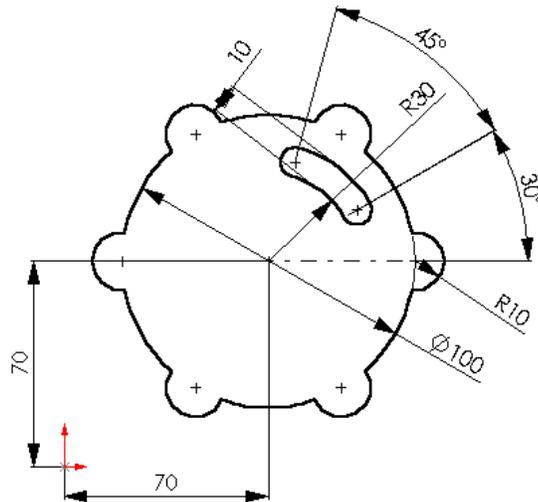

Figure 4-52 Sketch after drawing the sketch of the inner cavity
2. Dimension this arc such that it is forced to a radius of 30mm. Also, add the angular dimensions to the arc, refer to Figure 4-52. The arc will turn black in color, suggesting that it is fully defined.
4. Close the two ends of the arc using the **Tangent Arc** tool. This completes the sketch of one of the inner cavities. All the entities in the sketch at this stage should be displayed in black color as shown in Figure 4-52.